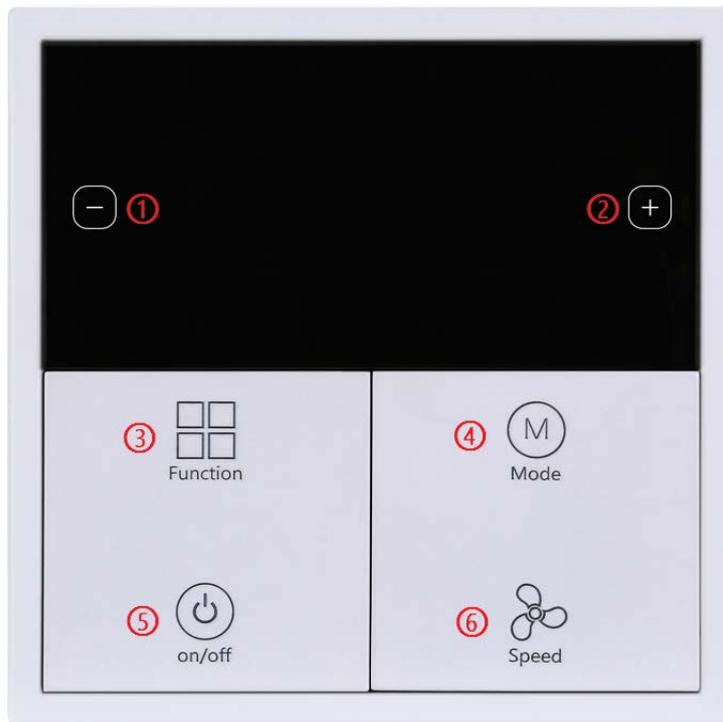

Figure 1-1 Button ID
- ① Please refer to the datasheet attached to the product for the information of installation, wiring, specifications, etc.
- ② The pictures in this user manual are for reference only. The actual product should prevail.
- ③ The button functions are shown in Table 1-1 (Please refer to Figure 1-1).